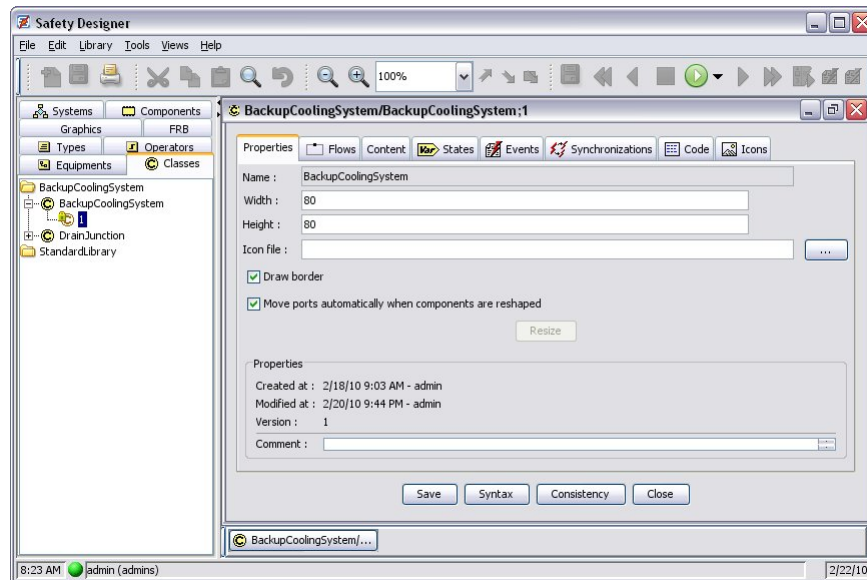

Figure 19: Model Class Editor
10. Access the Model class tab (Figure 19: Model Class Editor)